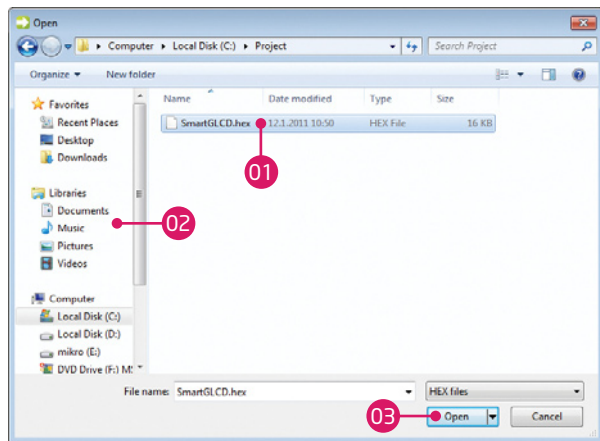

Figure 3-6: Selecting .hex file
- 01 Click on Browse for HEX and from pop-up window (figure 3-6) select .hex file which will be uploaded to MCU memory